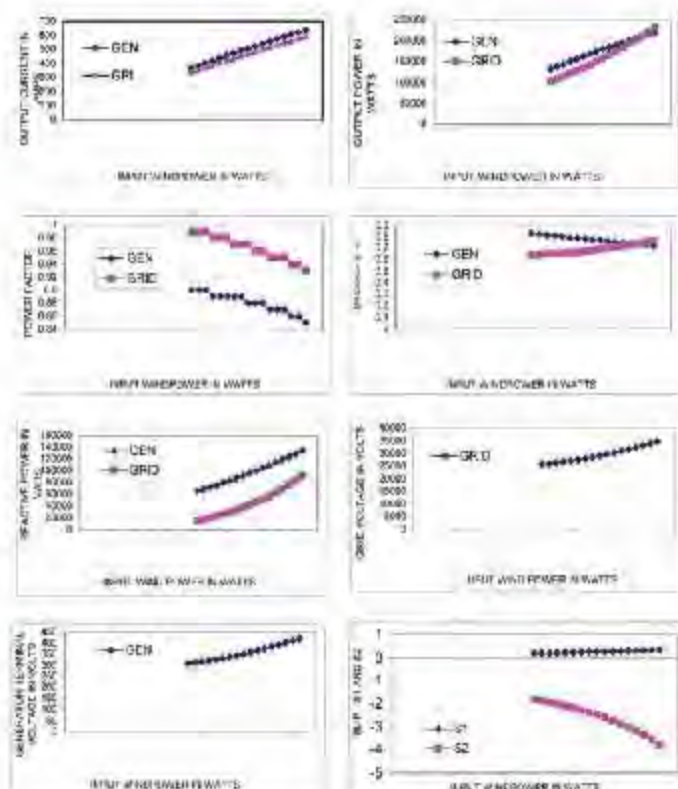

Fig. 7: 225 KW Grid Connected Winding Generator at Variable Input Wind Power at Constant Voltage And Frequency
- Variation of the dependant parameters with the input wind power, keeping the generator voltage and grid frequency constant. The following behavior is observed and plotted with rise in input wind power as shown in Fig. 7. As the input wind power rises, the Output current, Real power output,